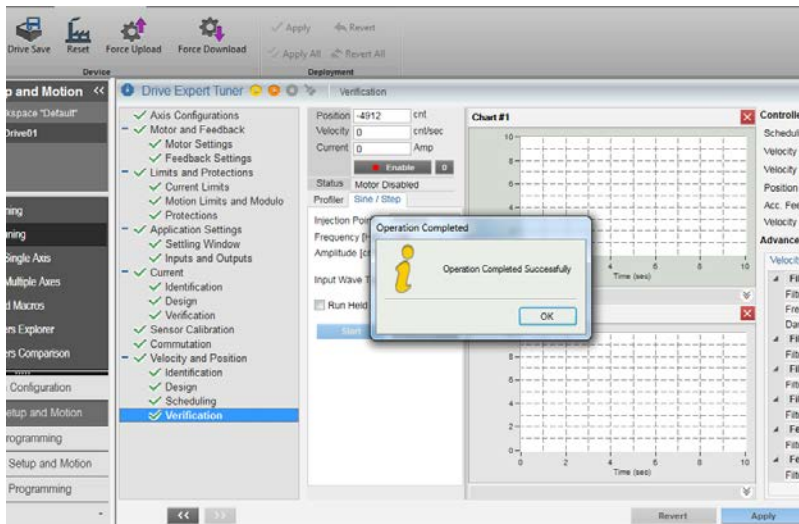

Figure 14
6.2.2 After you step through the rest of the settings and verifications you should finish by Clicking Drive Save (show in the top left of figure 14)